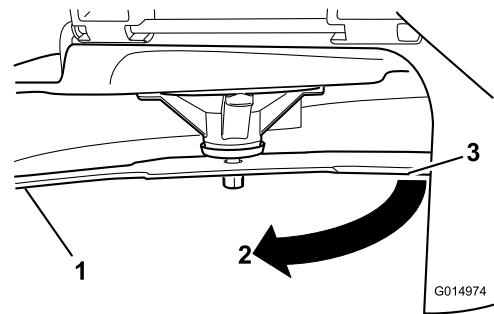

Figure 91
3. Measured distance between blade and the surface (A)
4. Rotate the same blade 180 degrees so that the opposing cutting edge is now in the same position (Figure 91).